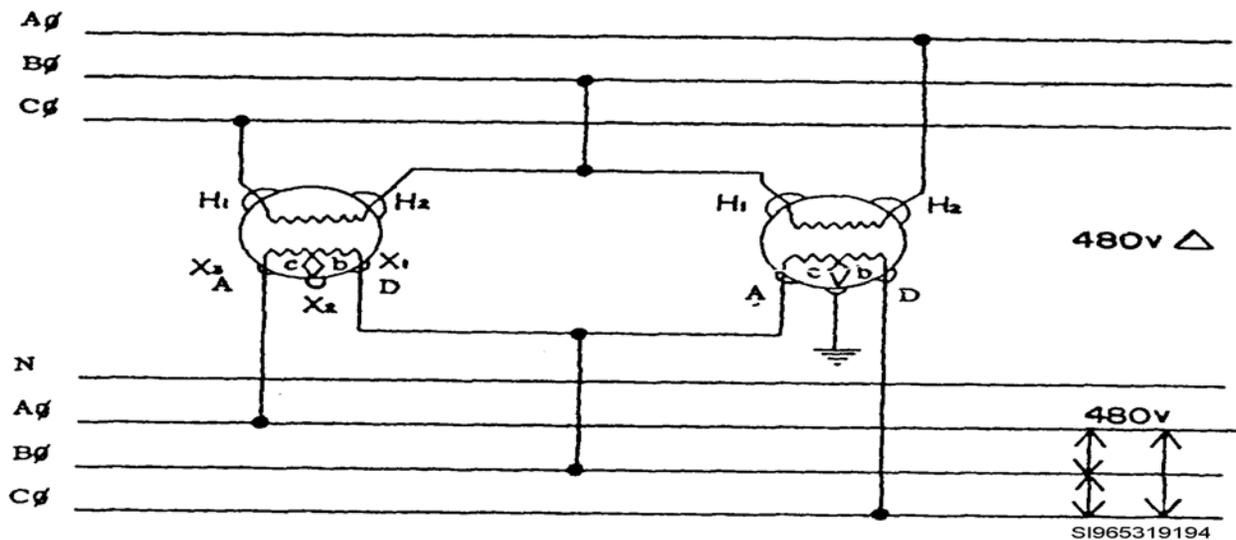

Figure 10, Delta/Open Delta for Lights and Power
Step 18: Primary Connection for Delta/Open delta as seen in Figure 10 above.
Step 19: Secondary Connection for Delta/Open delta as seen in Figure 10 above.